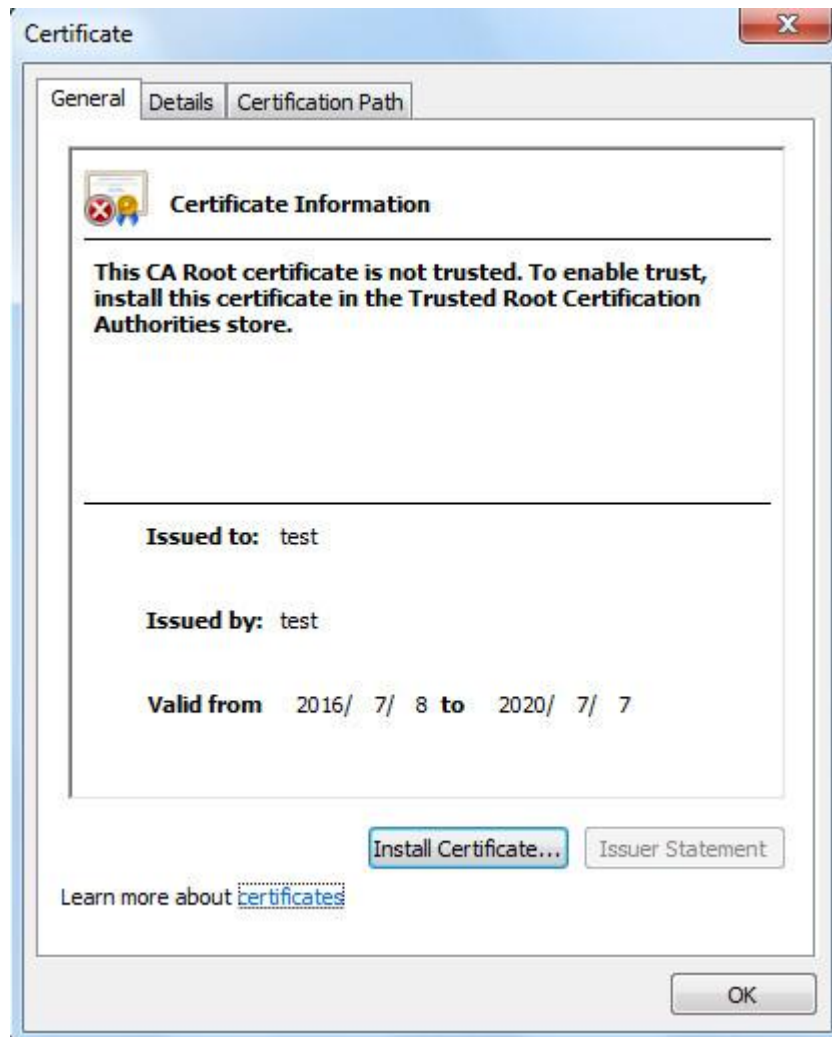

Figure 4-51
1. Double click the  RootCert.cer you have downloaded and the system will pop out the dialog box of “Certificate”, which is shown in Figure 4-51.